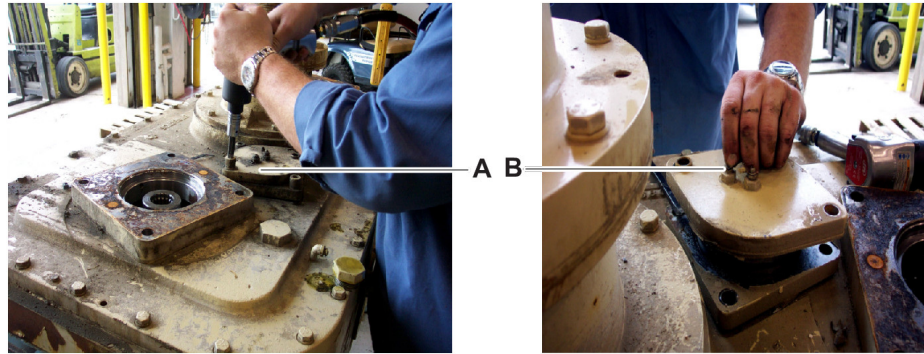

Figure 13
14. Remove the retainer bolts and release the vacuum manually by pulling up the pressure relief valve stem (Figure 13, item B) at the same time. Remove the intermediate bearing adjusters. Remove O-ring and shims. Remove the intermediate bearing holder (item A) and the O-ring.